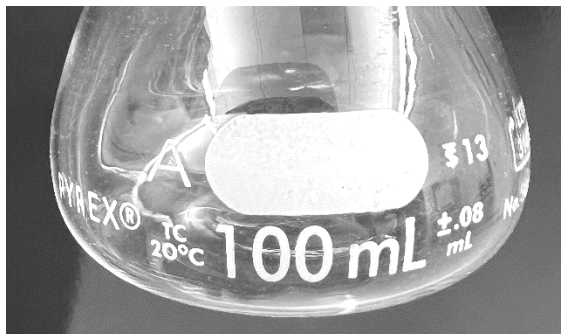

Figure 1. Image of a 100 mL volumetric flask.
- **Analytical Context and Framing:** I use this worksheet on the first day of class to introduce the analytical problem-solving framework shown in Figure 1 and to show students why analytical chemistry matters. The COVID testing context works well because most students remember that testing was a real problem that had to be solved quickly, and many pre-health students can immediately see the connection to clinical decision-making. I would avoid treating this as a “history of COVID” lesson or as a paper students need to master in detail. The point is that, in 2020, the analytical problem was not simply to “make a test.” It was to balance speed, cost, reliability, accessibility, and public-health need.
Figure 1. Flow diagram showing one view of the analytical approach to solving problems. Adapted from Figure 1.2.1 in David Harvey, *Analytical Chemistry 2.1*, licensed under CC BY-NC-SA 4.0. Harvey's figure was modified after Atkinson, G. F. *J. Chem. Educ.* **1982**, 59, 201–202.